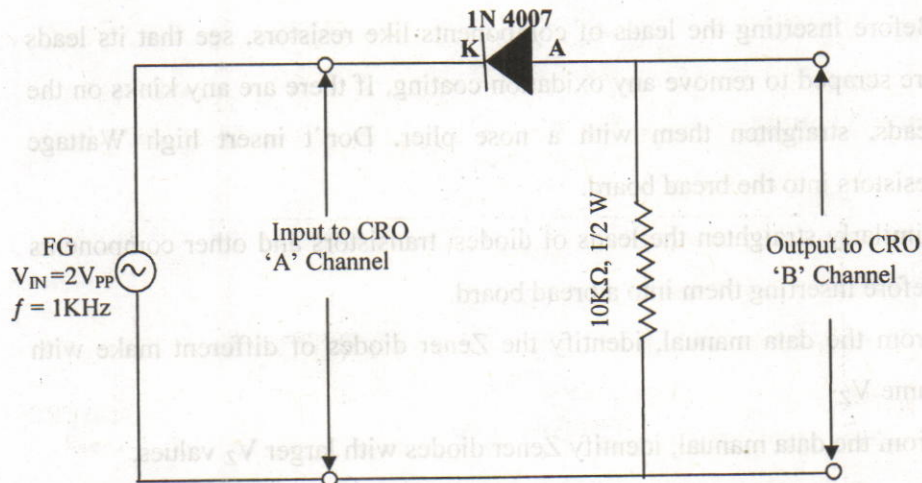
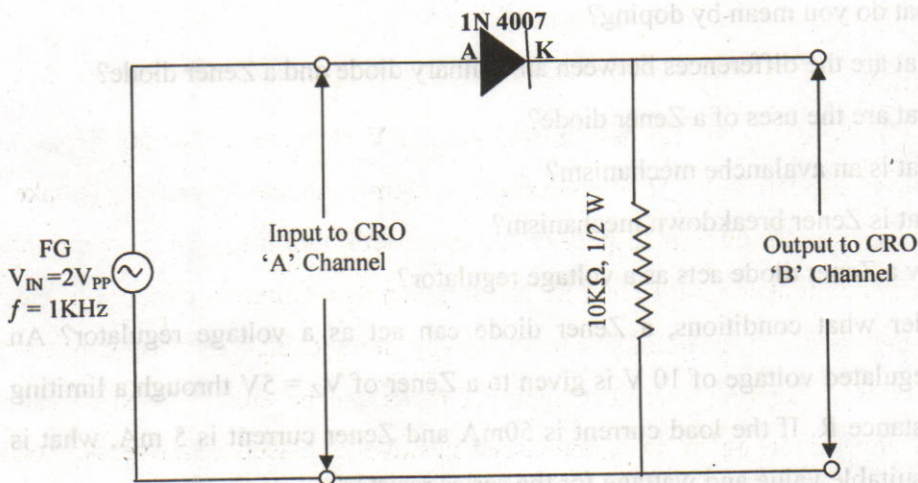

Fig.3.1
Fig.3.2
In clipping circuits, a diode can be connected either in series (known as *Shunt clipper*) or in parallel (known as *Series clipper*). The function of a clipper is to clip off (or remove or eliminate) an unwanted portion of a waveform. A half wave rectifier (i.e. a simple diode) can be described as a clipper of an alternating waveform (sine, square, triangle) and clips off the other half cycle. In fact, a diode series clipper is a half wave rectifier circuit. During positive half cycles of the input, the diode is forward biased and acts almost as a short-circuit. During negative half cycles of the input, the diode is reverse biased. Consequently, the output remains at zero and the negative half cycle is effectively clipped off. The circuit is shown in Fig.3.2. If the diode is reversed as in Fig.3.1, the positive half cycles are clipped off and the circuit becomes a series positive clipper. When a diode is connected in parallel (known as *Shunt diode clipper*) with an ac source with a series resistor (circuit obtained by changing the positions of diode and resistor), it can also work as a *Clipper*.
7. Now reverse the diode in its position of Fig.3.1 to study the operation of **Negative Clipper** (Fig.3.2) and repeat the above procedure.